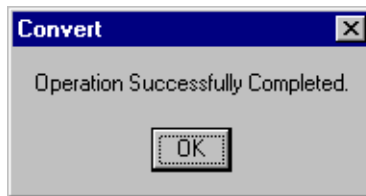

Figure 2.7. Conversion Successful Message Box
11. A message box opens indicating the conversion was successful (Figure 2.7).